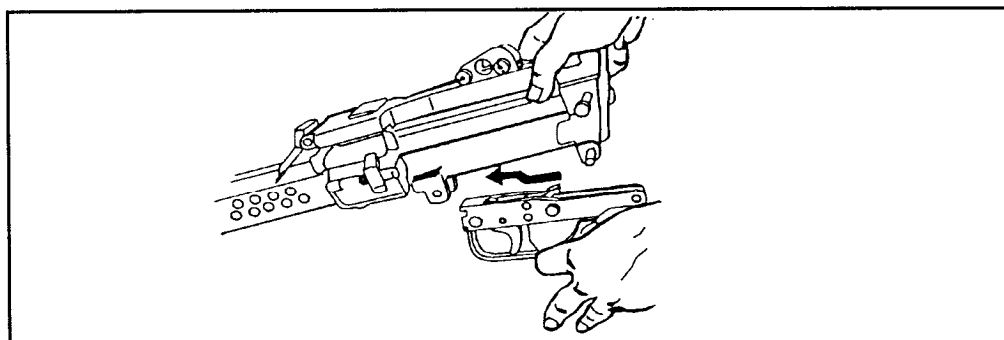

Figure 2-19. Replacing the trigger mechanism group.
c. **Replacing the Trigger Mechanism Group.** Align the trigger mechanism with the slot on the bottom of the receiver. Hold the trigger mechanism in position to accomplish the next step. (Figure 2-19.)